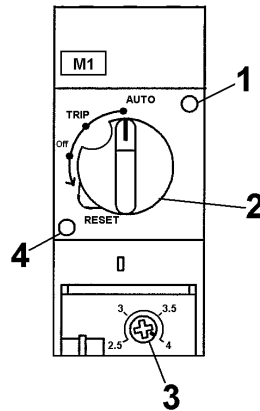

Figure 4. Motor Controller (raw water pump).
When the motor is running a flag can be seen through window (1). See Figure 4. In the event of a short circuit, a flag can be visible through window (4) and the switch (2) will be rotated to TRIP location. The switch should never be at OFF.
1. Inspect the location of the switch (2) it should be set to AUTO. See Figure 4.
- a. Rotate the switch (2) counter-clockwise to RESET.
- b. Rotate the switch (2) back to AUTO.
3. Ensure that the overload screw (3) is set to "4".